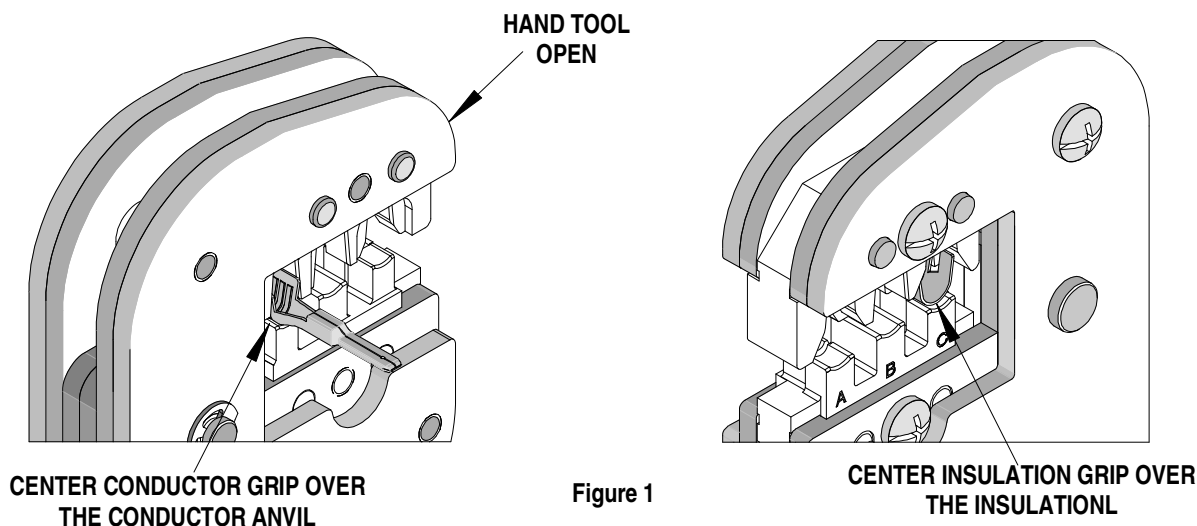

Figure 1
2. Holding the terminal at the contact end, place the terminal on the appropriate anvil. See Figure 1.